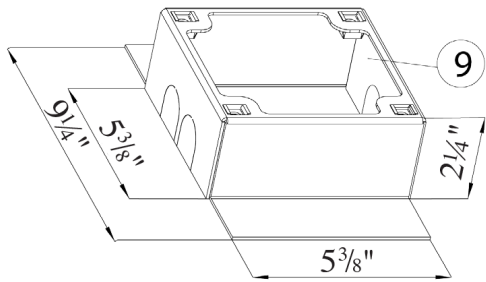
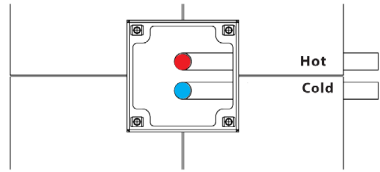

Fig.A2
Fig.A3
- Install the concealed inlet box (9), aligning the two hot and cold water pipes. (Figure A1, Figure A2, Figure A3)